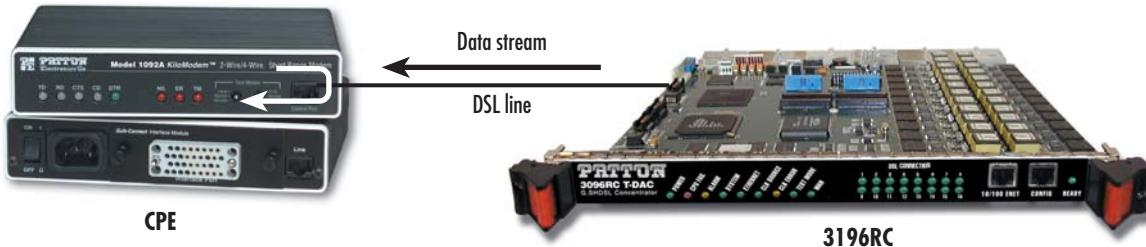

Figure 60. CPE remote loopback
- Active—The switch is toggled to the bottom position. The 3086 is operating in Remote Loopback mode as shown in figure 60.